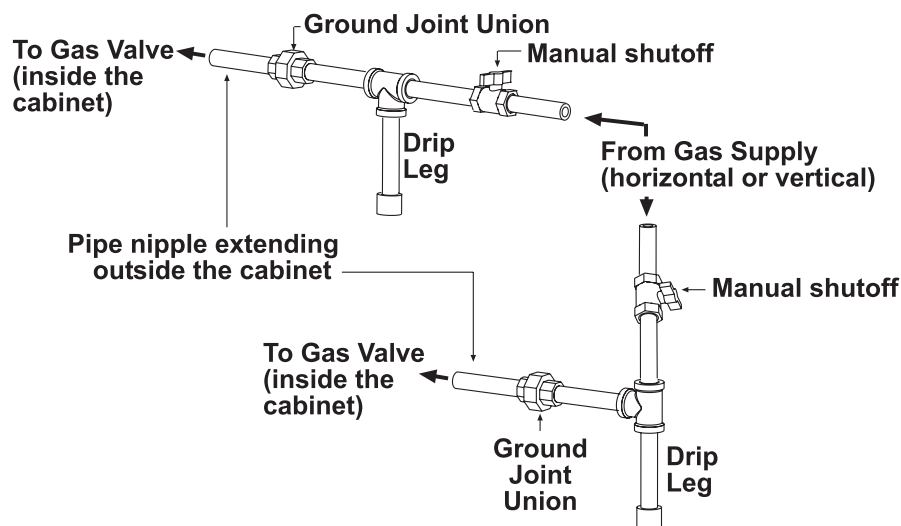

Figure 17. Gas Connections
- Install a ground joint union and manual shutoff valve upstream of the unit control system, as shown in Figure 17.
- The 1/8-inch plugged tapping in the manual shutoff valve in Figure 17 provides connection for a supply line pressure test gauge.
- The *National Fuel Gas Code* requires the installation of a trap with a minimum 3-inch drip leg (see Figure 17). Local codes may require a drip leg longer than 3 inches (typically 6 inches).